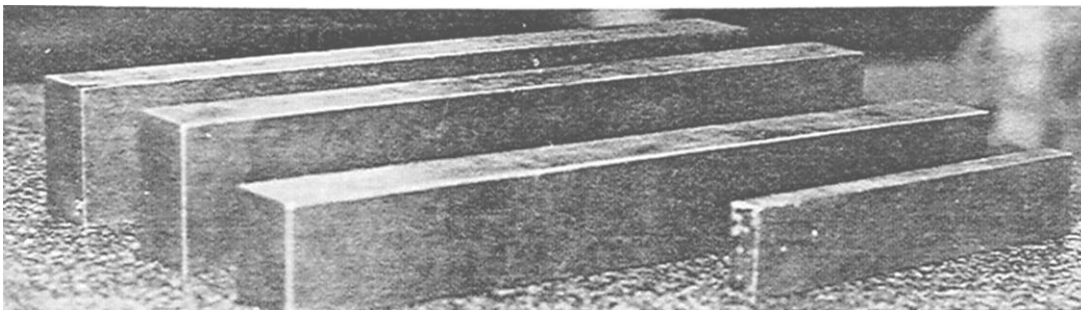

Figure 1-26.—Parallel blocks.
**PARALLEL BLOCKS.**—Parallel blocks (fig. 1-26) are hardened, ground steel bars that are used to lay out work or set up work for machining. The surfaces of the parallel block are all either parallel or perpendicular, as appropriate, and can be used to position work in a variety of setups with